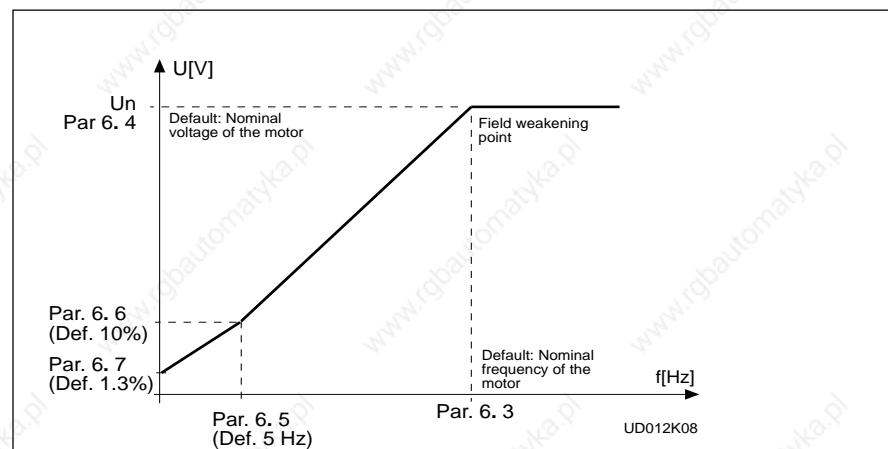

Figure 4.4-3 Programmable U/f curve.
- Programm. U/f curve 2** The U/f curve can be programmed with three different points. The parameters for programming are explained in Chapter 4.5.2 Programmable U/f curve can be used if the other settings do not satisfy the needs of the application. See figure 4.4-3 .